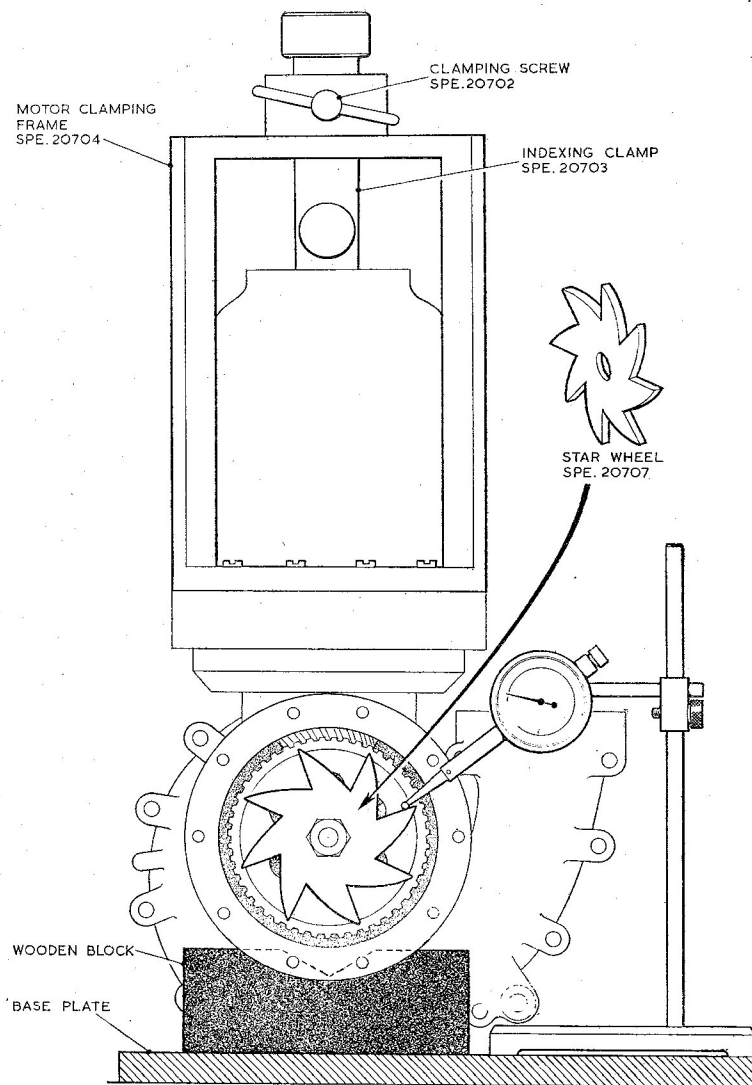

Fig. 17. Backlash checking
(g) Remove the pump shaft disc and fit an excess number of shims (94), the bevel gear key (95) and the bevel gear (98A). Place the special starwheel SPE.20707 (fig. 17) on top of the gear and align it so that one arm is between the markings X—X which will be found engraved on two adjacent gear teeth. Secure the starwheel with a $\frac{3}{8}$ in. B.S.F. nut.